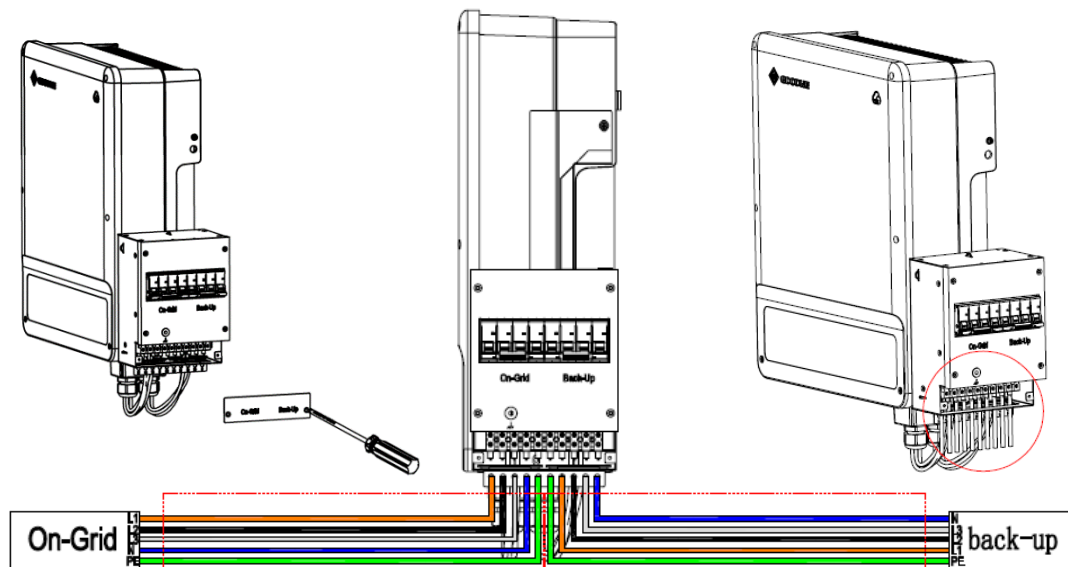

Figure 32 Connection of AC cables
Step 14: Please remove the cover of the cable box. Connect the AC cables to the corresponding ports. Fix the cover back to the cable box, as Figure 32 shows.